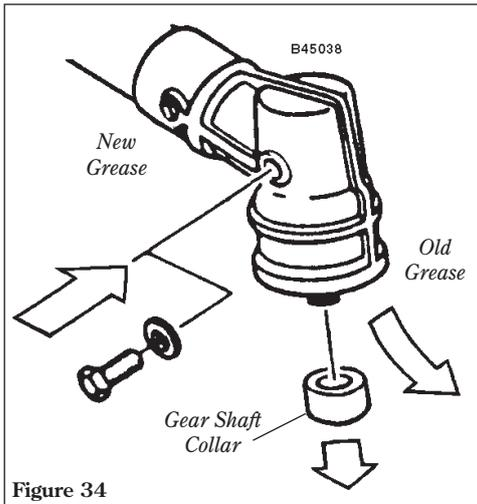

Figure 34
- Remove the cutting attachment and the gear shaft collar. Remove the filler plug from the side of the gearcase and press new grease into the gearcase until grease is pushed out. Use only lithium base grease, such as Shindaiwa Gearcase Lubricant P/N 13-57 or equivalent. See Figure 34.